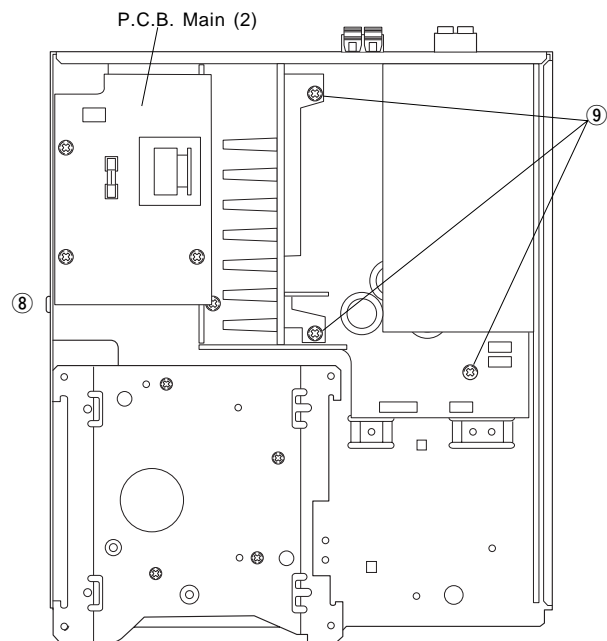

Fig. 7
- Remove 1 screw (⑧) and then remove the P.C.B. Main (2) in Fig. 7.
- Remove 3 screws (⑨) in Fig. 7.